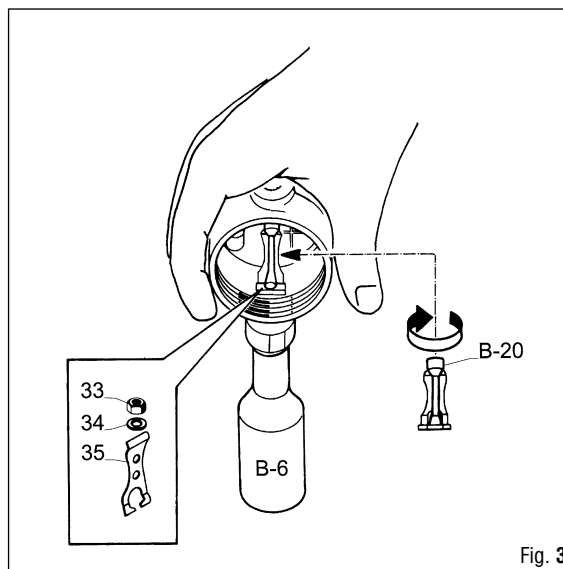

Fig. 3
7. Correctly position the demand lever (35) in the groove of the 2nd stage case (32).
8. Fit the washer (34) on the poppet stem and lock down the demand lever adjusting nut (33) using the special wrench (B-20) (Fig. 3).